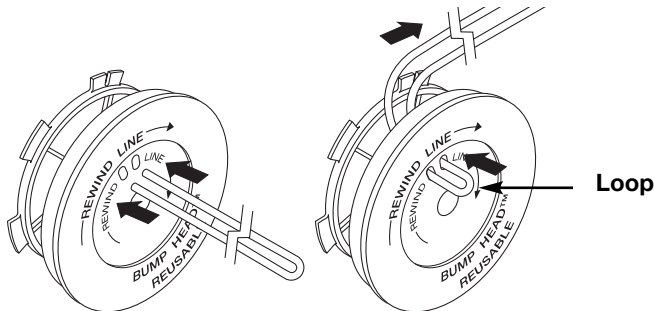

Fig. 16
- Take approximately 20 feet (6 m) of new trimming line, loop it into two equal lengths. Insert each end of the line through one of the two holes in the inner reel (Fig. 16). Pull the line through the inner reel so that the loop is as small as possible.